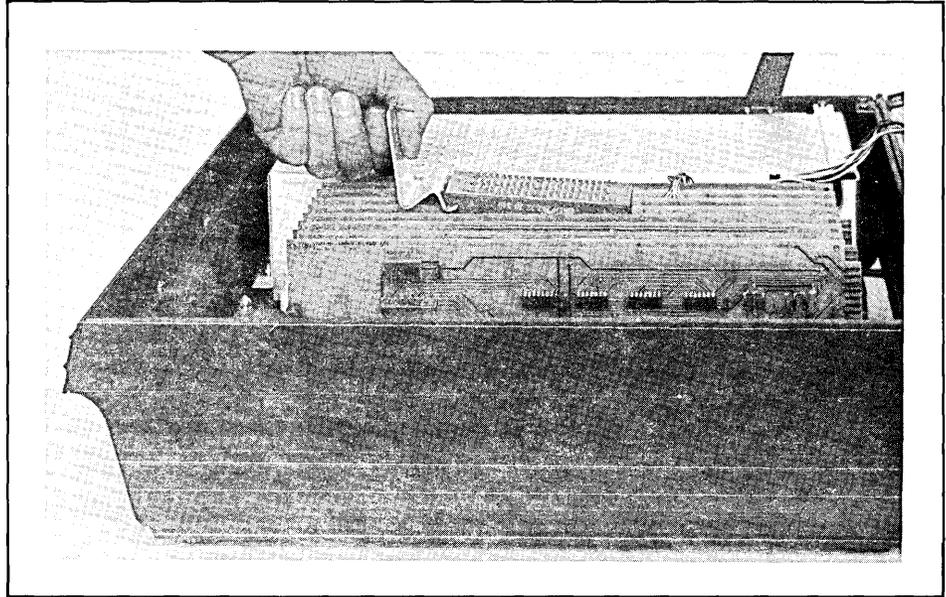

Figure 5-2. Top Plane Connector Removal
2. Remove the top connector from the Display Control, Display Memory Access, and Display Timing PCAs (figure 5-2).
2. Use the connector extractor to remove the top plane connector from the Display Control, Display Timing, and Display Memory Access (DMA) PCAs (figure 5-2).